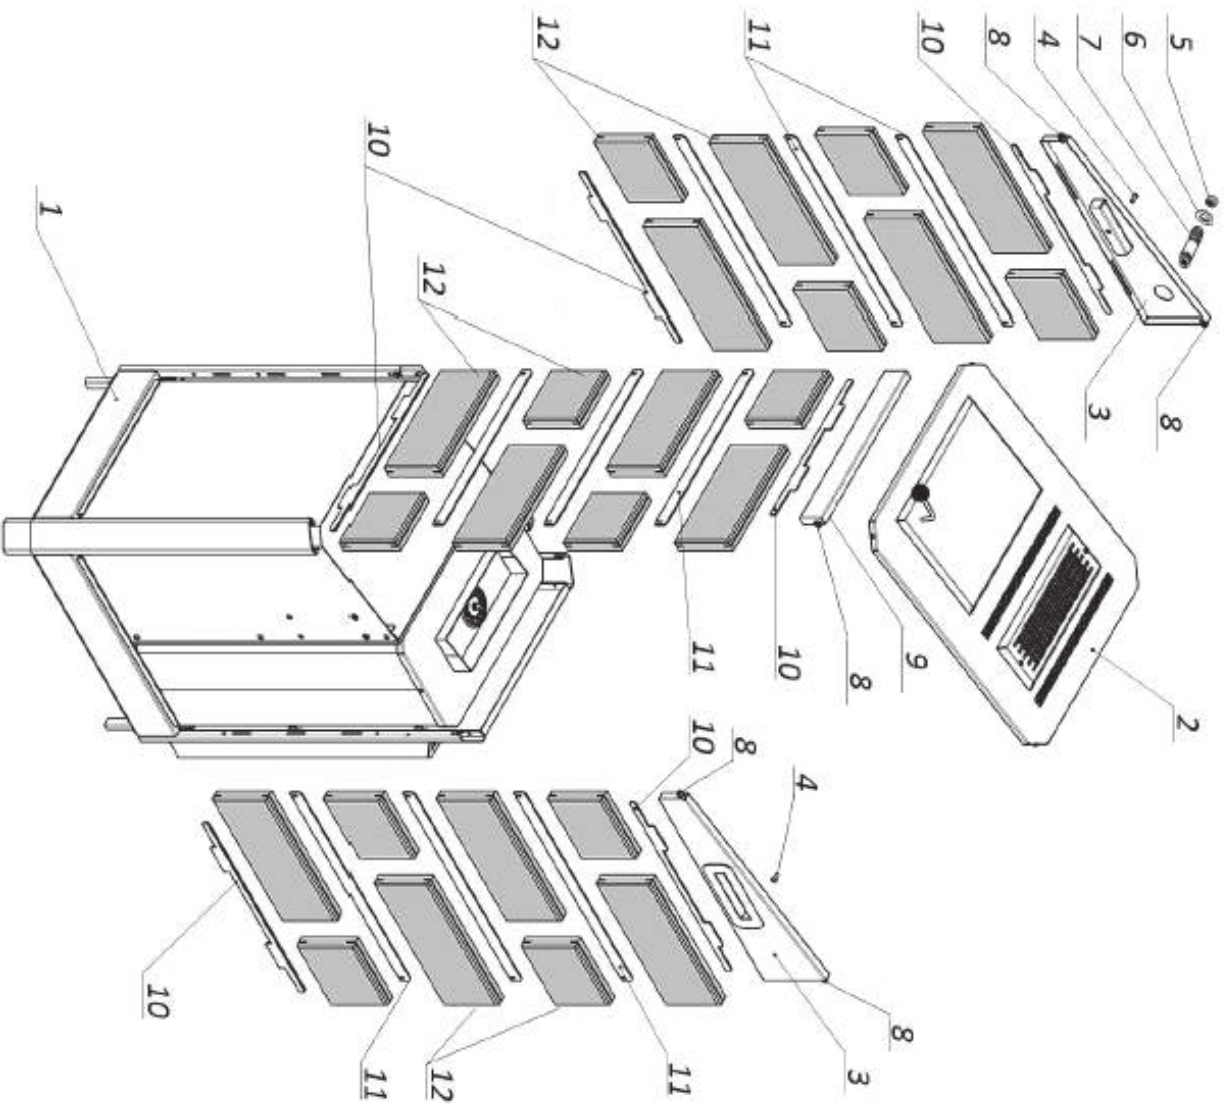
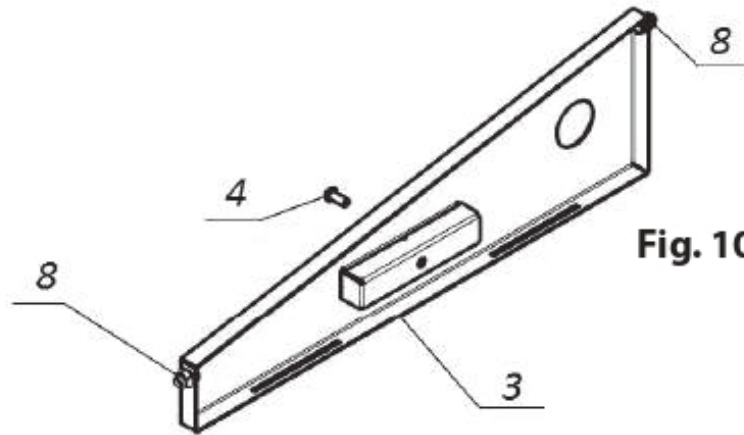

Fig. 9 Diagram of the stone facing assembly of the steam thermal electric heater PARiZHAR-6.25 kW. The facing of other heaters is assembled in a similar manner.
Fig. 10 Side panel of the stone-faced EH case
2.1.3.1 Attention! Before the stone facing assembly, connect the Electric heater to the electric mains and water supply system according to 2.1.1 and 2.1.2 hereof. Install the heater in its operation location. A diagram of the stone facing assembly is given in Fig. 9.
2.1.3.2 Unpack and sort stone tiles by their lengths (no. 12, Fig. 9) and metal inserts (no. 10 and 11, Fig. 9) for the front and side EH panels.
2.1.3.3 Remove the top cover (no. 2, Fig. 9). For this, loose 4 self-tapping screws on corner cover ends. Unscrew the plug (no. 5, Fig. 9) and the decorative nut (no. 6, Fig. 9), then unscrew the steam bleeding nipple (no. 7, Fig. 9). Remove screws from side handles (no. 4, Fig. 9, Fig. 10). Loose fastening nuts (no. 8, Fig. 9, Fig. 10) of the front (no. 9, Fig. 9) and side (no. 3 Fig. 9, Fig. 10) panels inside the corners of the EH case. Pull the side and front panels upwards to remove them.
2.1.3.4 Install metal inserts with protrusions (no. 10, Fig. 9) on the foundation plate (no. 1, Fig. 9) and align protruding parts of the inserts with plate cutouts. Install first-row stone tiles (no. 12, Fig. 9) on all three sides by putting on tile cutouts on the inserts (no. 10, Fig. 9). Put metal inserts (no. 11, Fig. 9) into the cutouts of the installed tiles and install the second row of the tiles. The following rows of the stone tiles are installed in a similar manner. After the installation of the last (top) row of the tiles, metal inserts with protrusions (no. 10, Fig. 9) are put into their cutouts. Layouts of the installation of decorative stone tiles are shown in Fig. 11.
2.1.3.5 Install the side (no. 3 Fig. 9, Fig. 10) and front (no. 9 Fig. 9) panels and align protrusions of metal inserts (no. 10 Fig. 9) with cutouts in lower panel planes. Tighten the fastening nuts (no. 8 Fig. 9, Fig. 10). Tighten the screws (no. 4 Fig. 9, Fig. 10) into the side panel handles.
2.1.3.6 Using s fluoroplastic tape, screw the steam bleeding nipple (no. 7 Fig. 9) into the steam generator. Put the decorative nut (no. 6 Fig. 9) on the nipple, then screw the plug (no. 5 Fig. 9).
2.1.3.7 install the top cover (no. 2 Fig. 9) and fasten it with self-tapping screws.